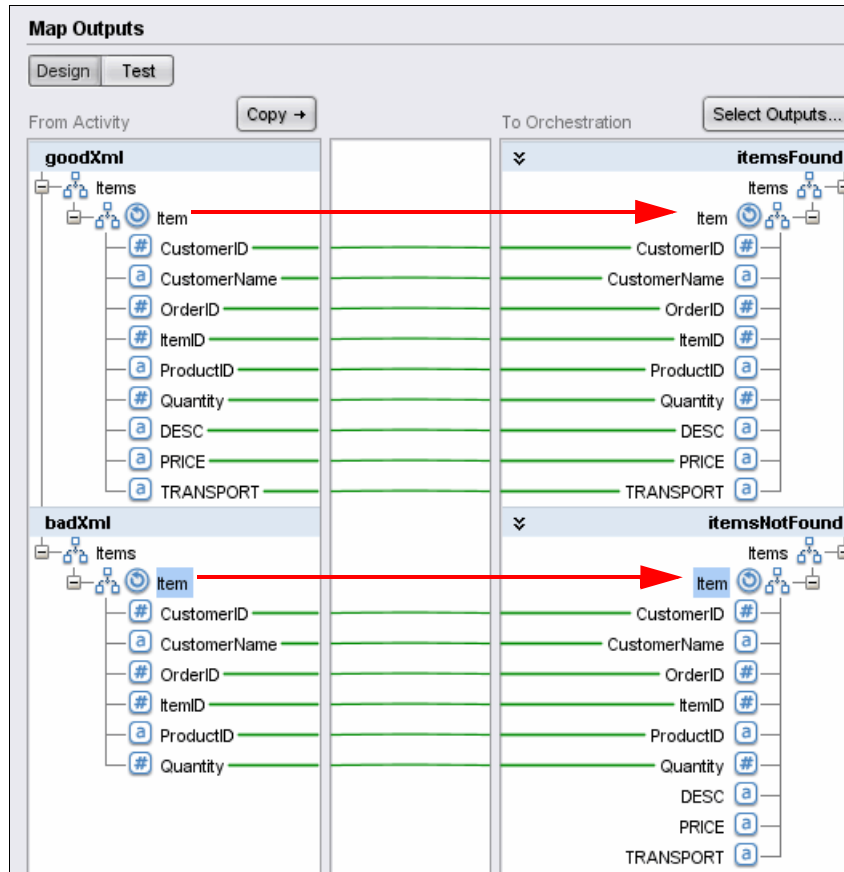

Figure 12-57 Map outputs for Lookup activity
6. Drag **goodXML** → **items** → **item** onto **itemsFound** → **items** → **item**. Drag **badXML** → **items** → **item** onto **itemsNotFound** → **items** → **item**. Refer to Figure 12-57 on page 501.